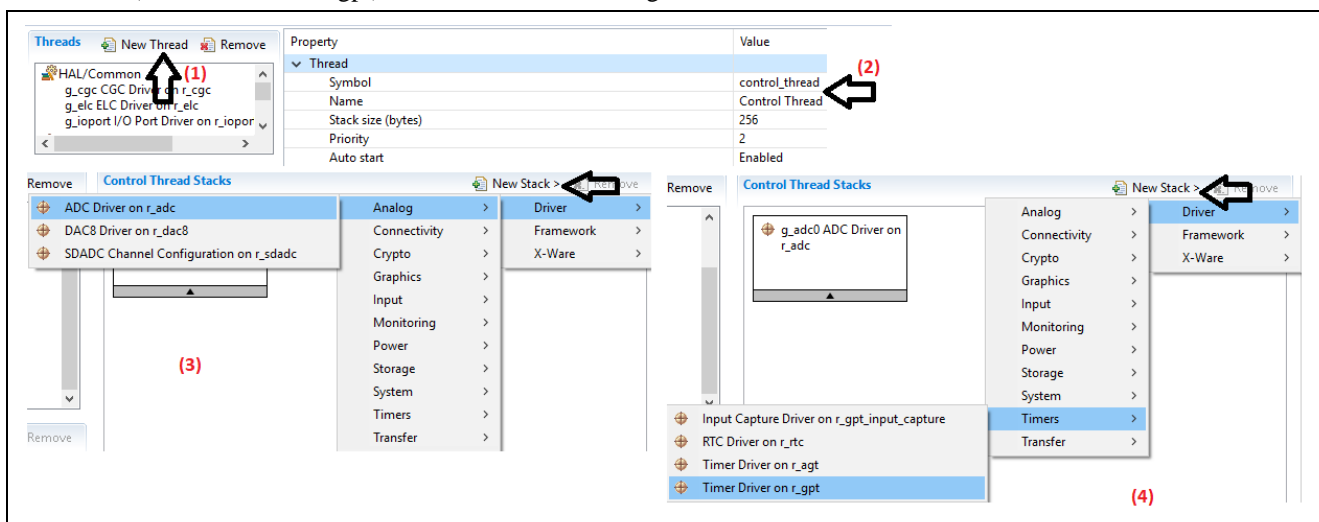

Figure 5 Adding ADC and r_gpt driver module
2. Set the property of this new thread, as shown in Figure 5.
3. In the **Control Thread Stacks** window, click **'New Stack'** to add the ADC driver (ADC Driver on r_adc), GPT driver (Timer driver on r_gpt) modules, as shown in Figure 5.